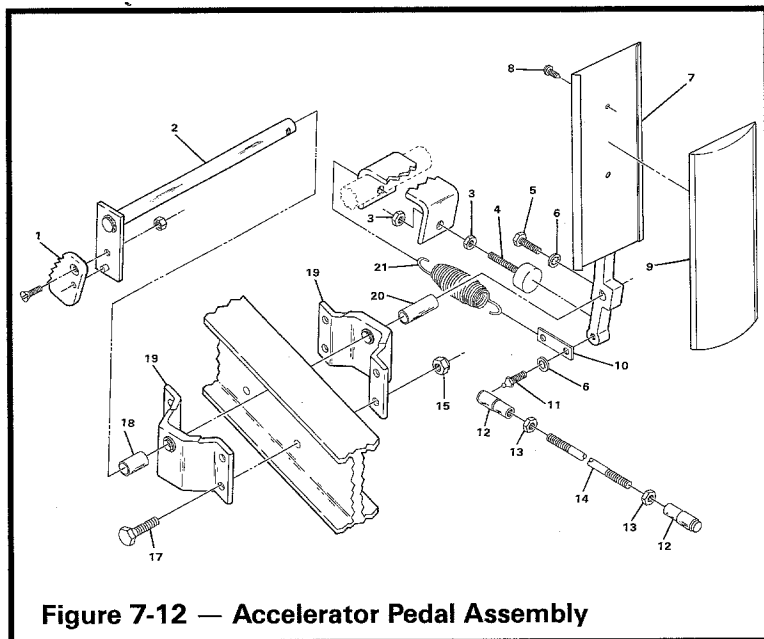

Figure 7-12 — Accelerator Pedal Assembly
2. Be sure key switch is off before disconnecting accelerator rod. Remove accelerator rod by disconnecting ball joint (12) from ball stud (11) on accelerator pedal and on actuator arm at electrical box (Figure 7-12).